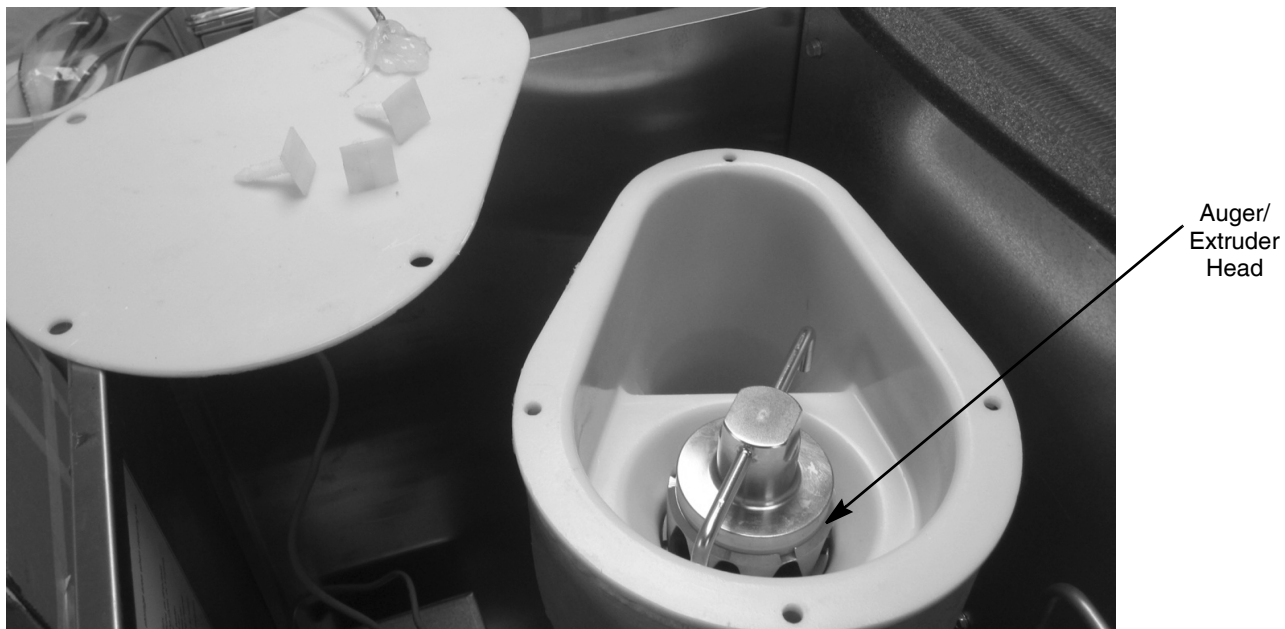

Figure 15.
1. Install the extruder head on top of the evaporator, as shown in Figure 15.